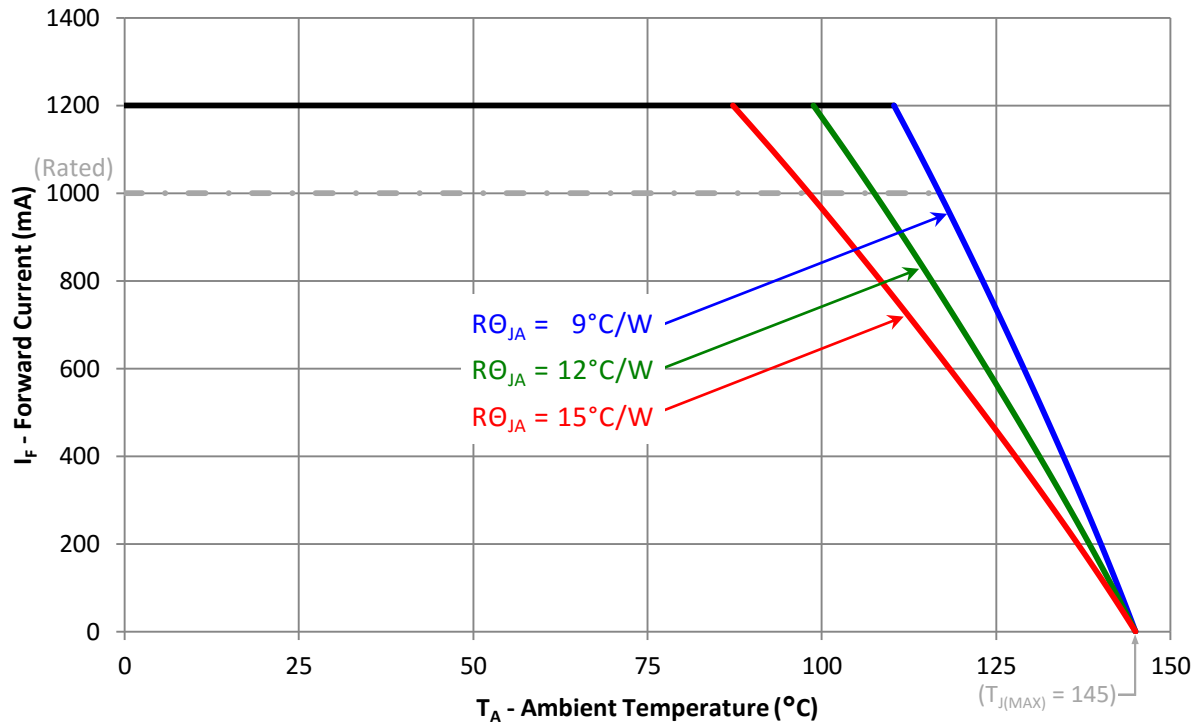

Figure 11: Maximum forward current vs. ambient temperature based on $T_{J(\text{MAX})} = 145^\circ\text{C}$.
- Maximum DC forward current is determined by the overall thermal resistance and ambient temperature. Follow the curves in Figure 11 for current derating.
Notes for Figure 11: